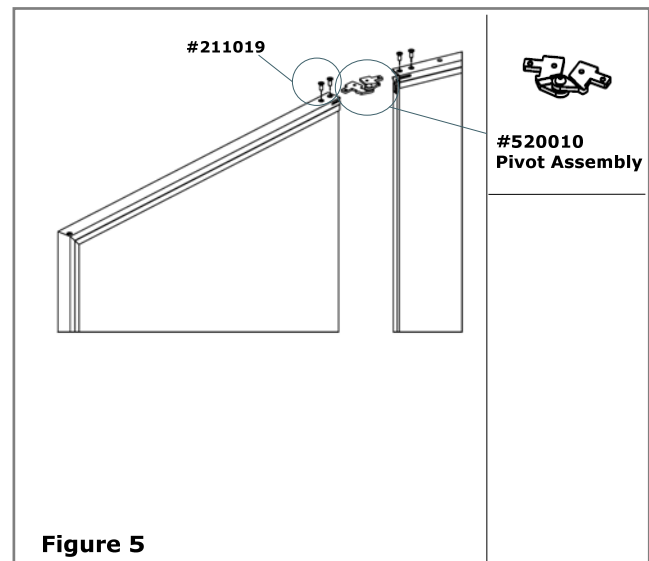

Figure 5
7. Arrange the individual assembled mirror frame sections next to each other with their mirrors face up. Insert the pivot assemblies into their slots in the top and bottom mirror frame sections. Insert the pivot assemblies so their hinges protrude over the mirror. Secure with #8 x 5/16" machine screws (part #211019). **See Figure 5.**